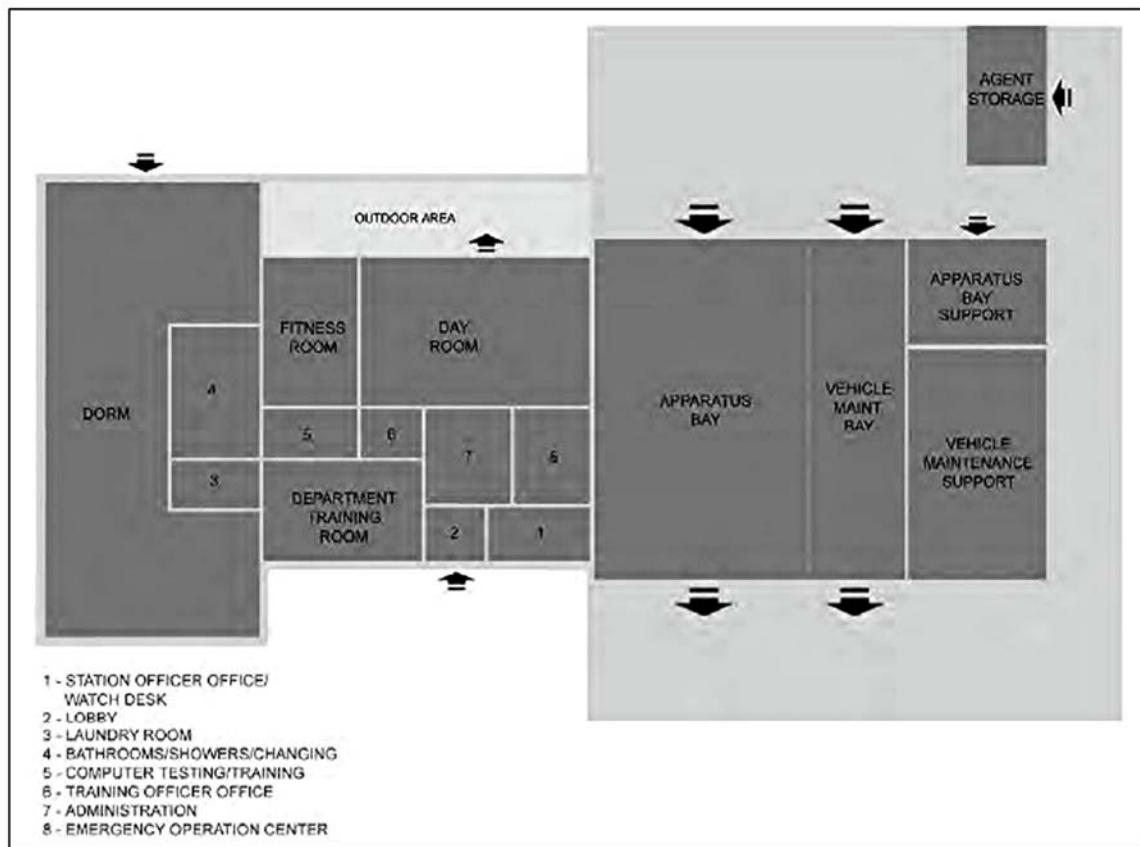

Figure 2-3
**2.5.2.2 Figure 2-3.** This diagram illustrates a layout for an HQ/Main station with larger administrative and training components.